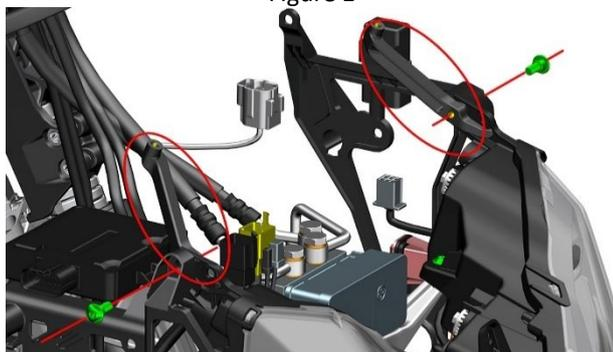

Figure 2
- Use a T25 Torx wrench to remove the five M6 internal Torx bolts shown in Figures 2, 3, and 4. Note: When removing the two bolts in Figure 2, hold the left and right headlight brackets to prevent them from falling.